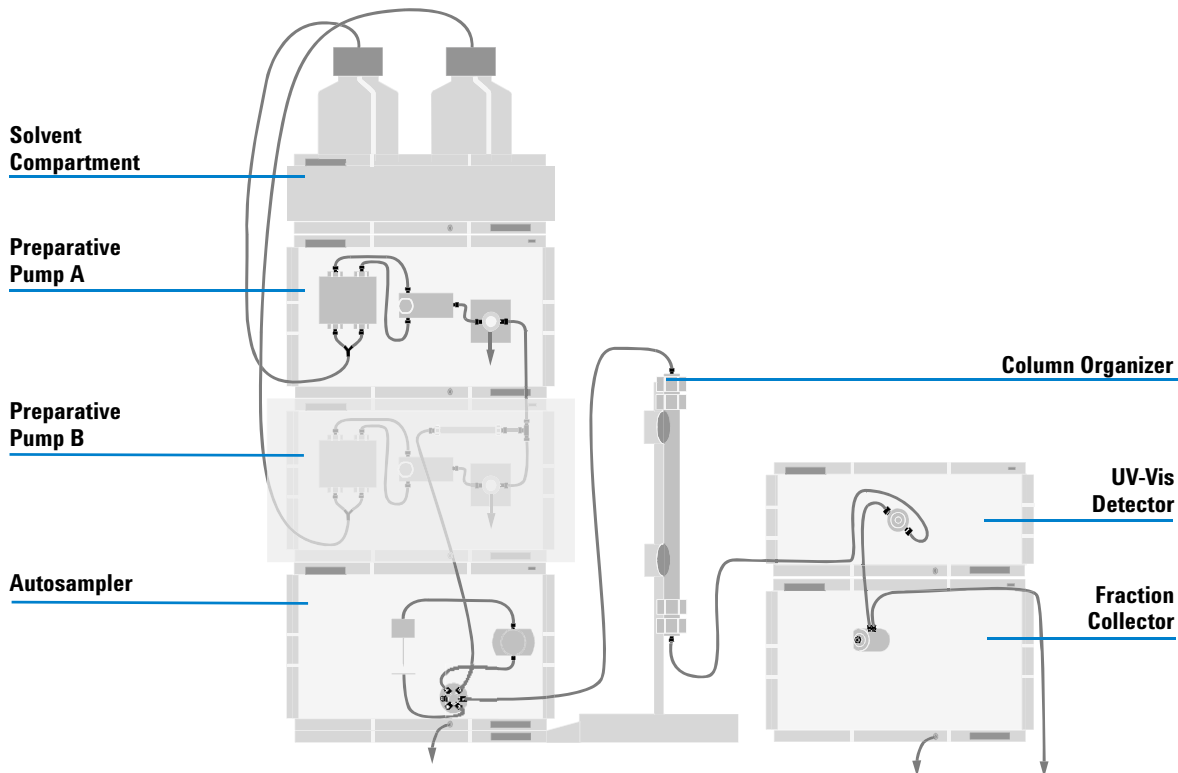
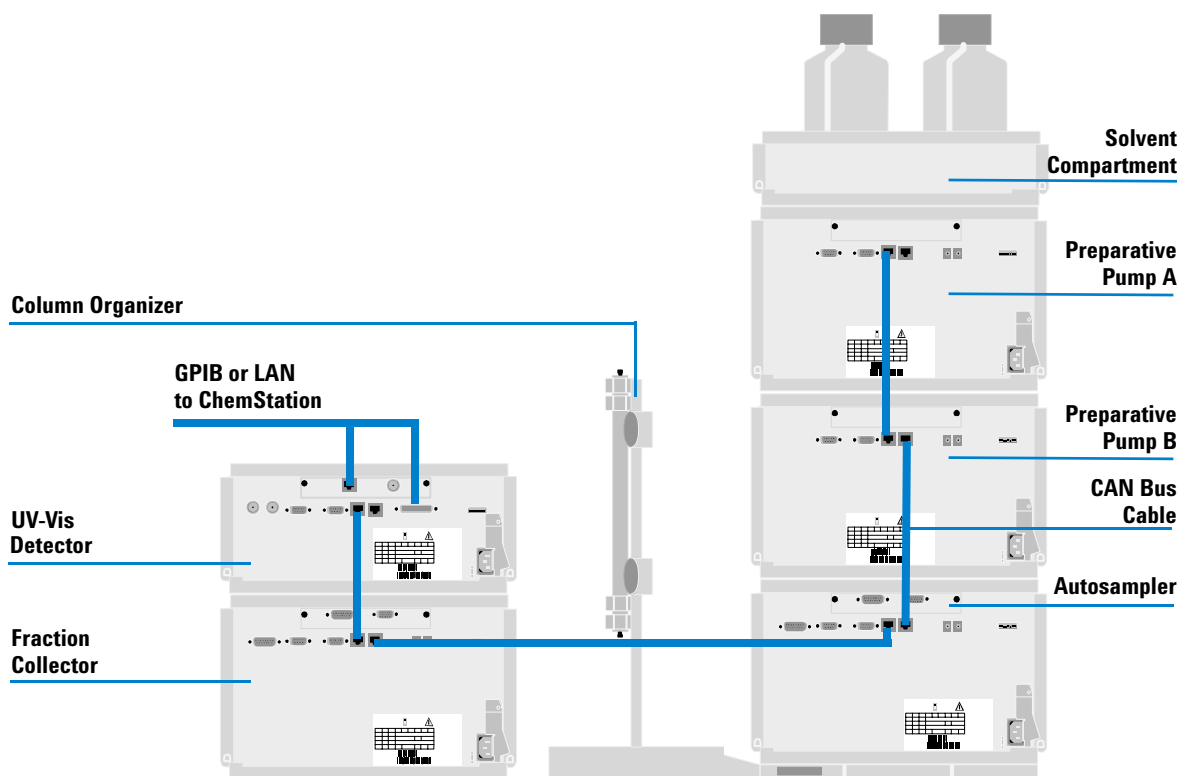

Figure 3 Recommended Stack Configuration -Preparative System (Front View)
Figure 4 Recommended Stack Configuration - Preparative System (Rear View)
- Figure 3 on page 45 and Figure 4 on page 46 show the configuration recommended for the sampler in a preparative scale system.